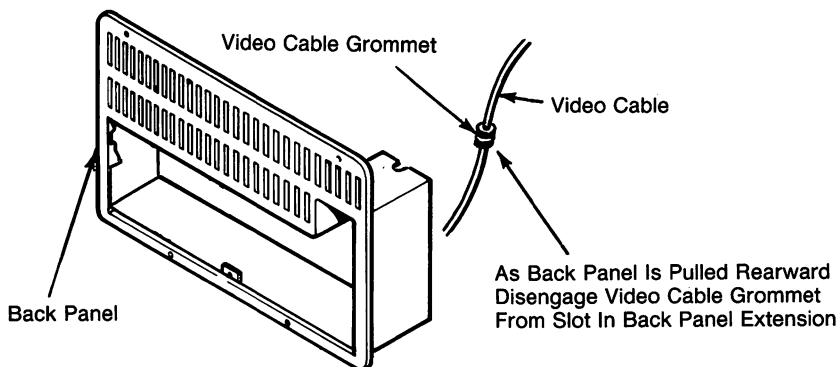

Figure 4-12 Disengage Video Cable & Grommet From Back Panel
8. As the panel slides rearward about two to three inches, it is necessary to disengage the video cable grommet from the slot in the extension of the back panel as shown in Figure 4-12. Once the cable with grommet is free from the slot in the back panel extension, the back panel is to be slid fully rearward until clear of the PC unit. Lay the back panel safely aside.